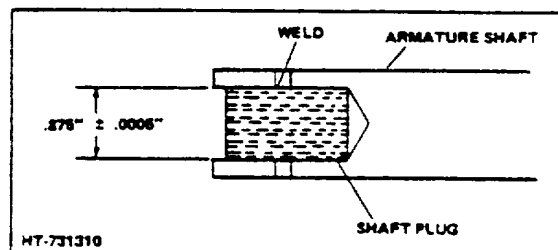

Figure 5-4. Shaft Plug Installation
- b. Drill and ream hole in armature shaft to .875" ± .0005" diameter (Fig 5-4). Drill and ream hole to original depth in shaft.